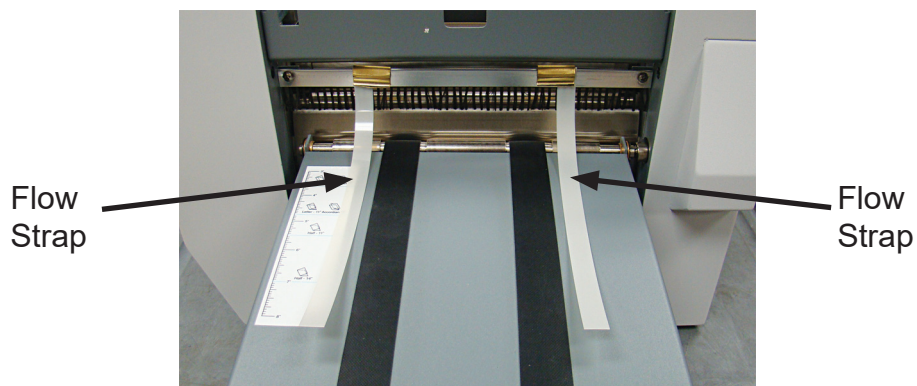

Figure 15
5. Repeat process on other side. Figure 15 shows two straps in place.